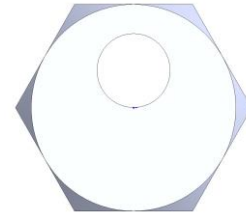

Figure 24. Adjuster Bolt (Closed position)
5. Assemble hinge plates, lower and upper (53A and 53B) by inserting swing-out hinge bolt (608) through upper hinge plate (53B), adjuster bolts (54B), and lower hinge plate (53A). Secure with adjuster bolt snap ring (176) and swing-out hinge hex nut (619) on swing-out hinge bolt.
6. Adjust vertical and horizontal alignment of hinge plates, lower and upper (53A and 53B) by alternately rotating top and bottom adjuster bolts (54B) with adjuster wrench (54C), refer to Figures 24 and 25.
8. When holes on upper hinge plate (53B) align with holes on pump flange, alignment is complete. Use swing-out mounting studs (633), hex nuts (620) and swing-out mounting flat washers (640) to secure upper hinge plate (53B) to pump flange.